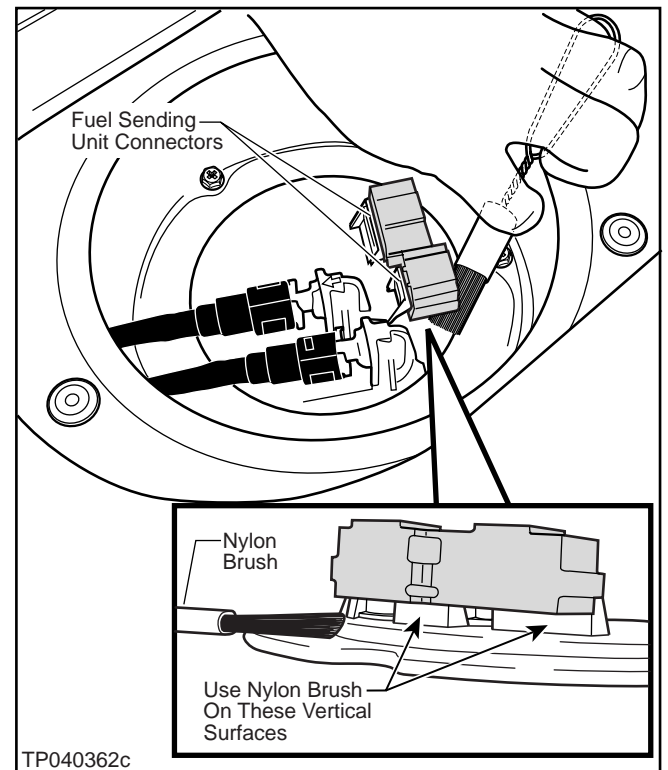

Figure 19
6. Use the Nylon Brush #J-47239 to loosen/remove dirt and debris on the vertical surface of the Fuel Sending Unit Connectors (see Figure 19).